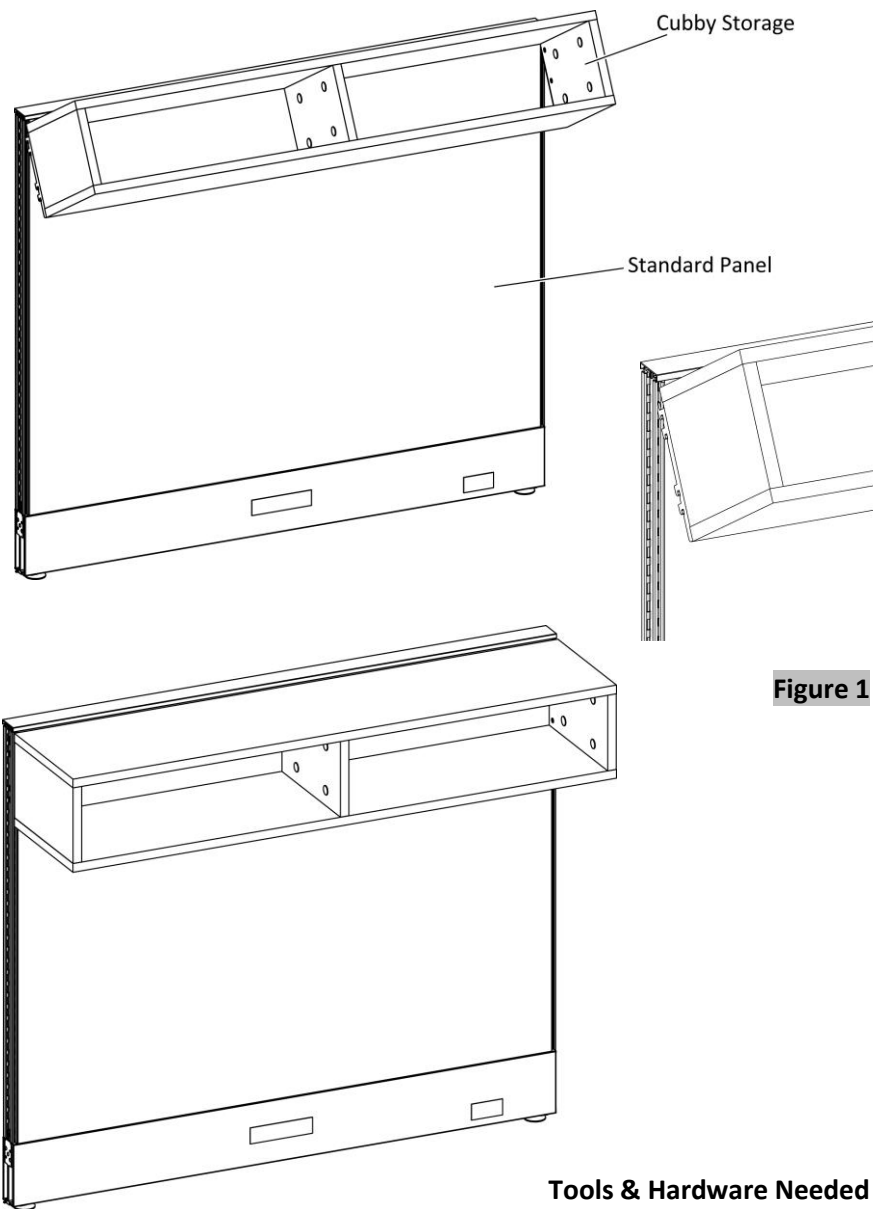

Figure 1
- 1. Angle the cubby storage at a 30-degree angle, (Figure 1).